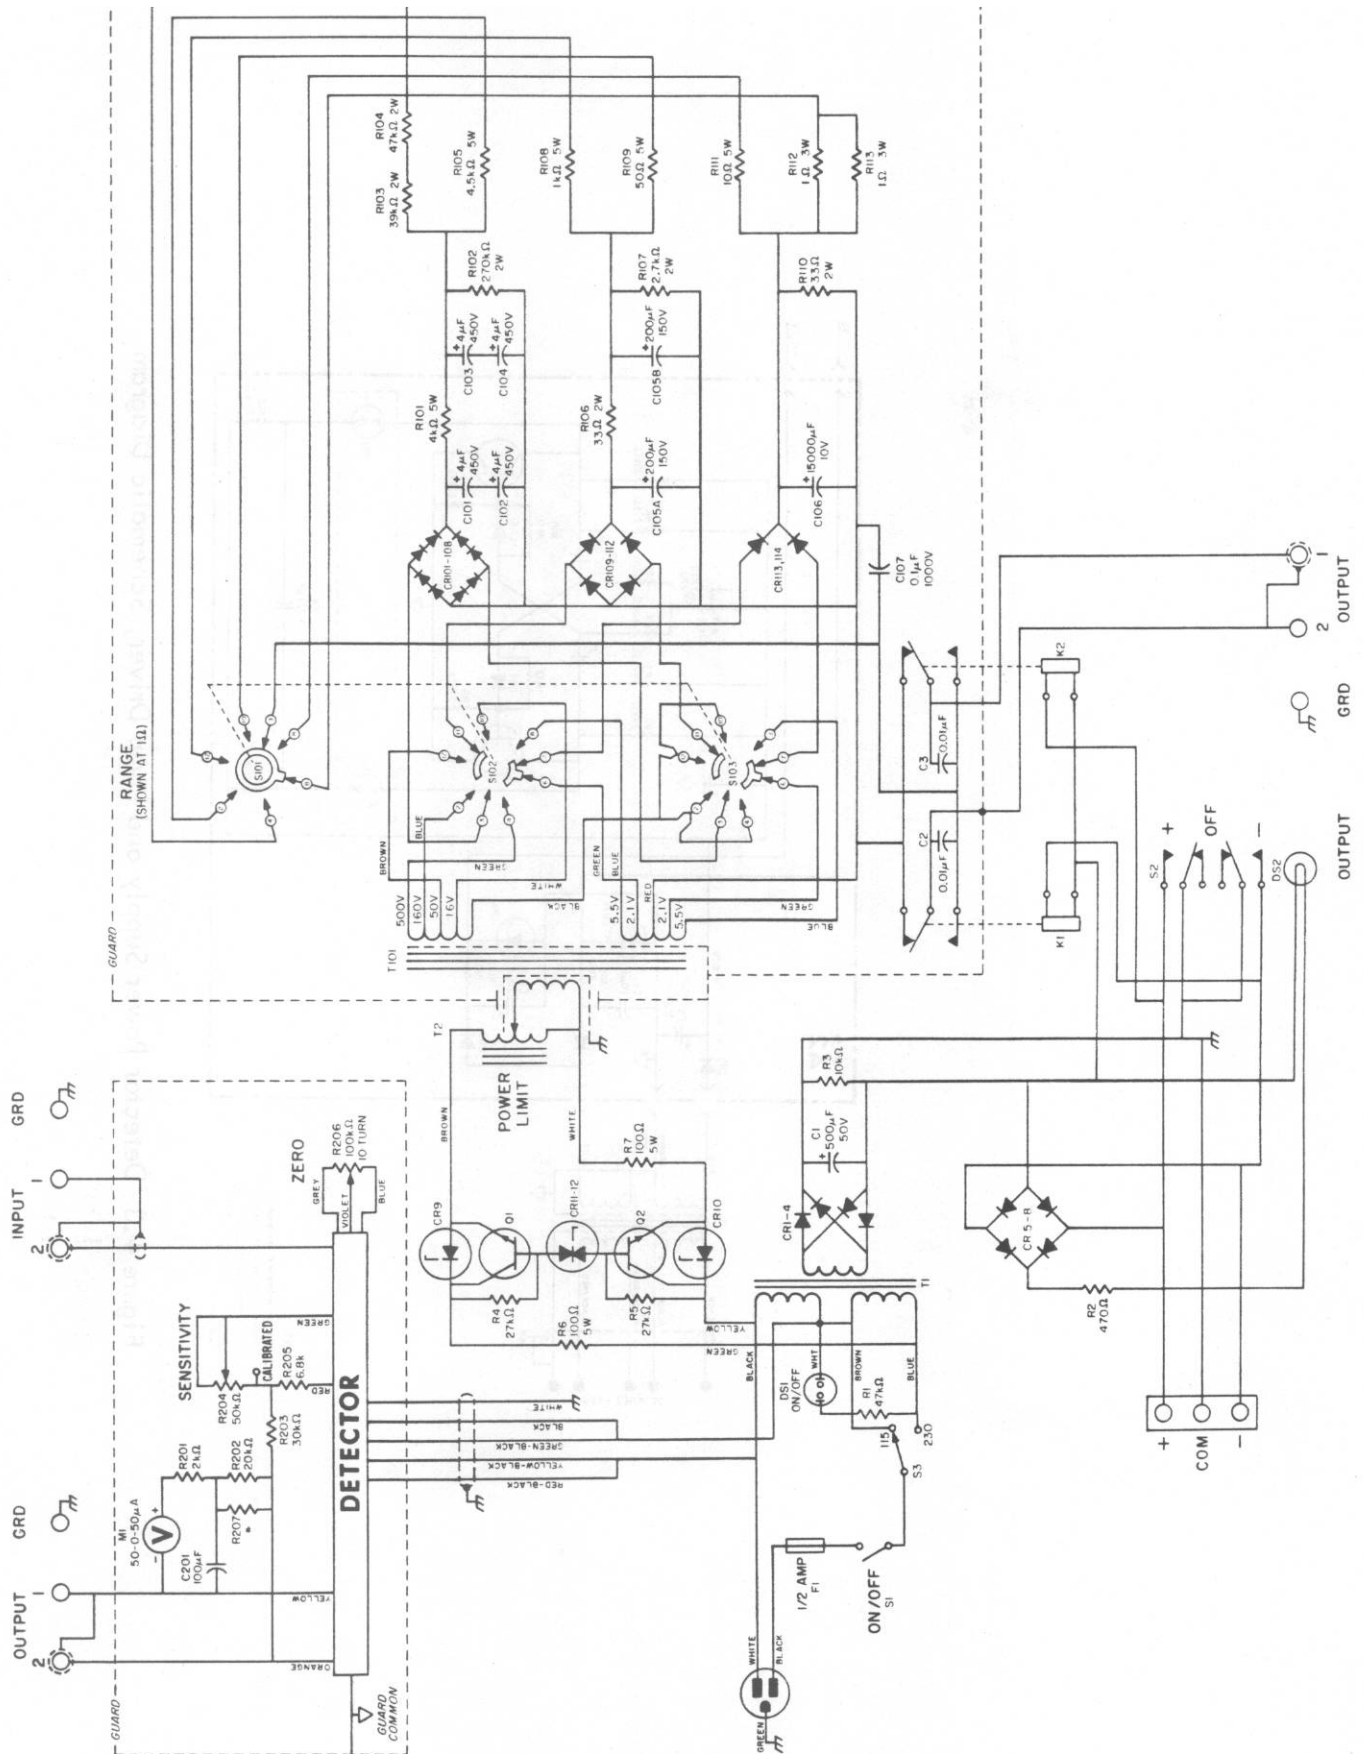

Figure 4.4 Schematic Diagram
* These apply to Figure 4.4 schematic only.